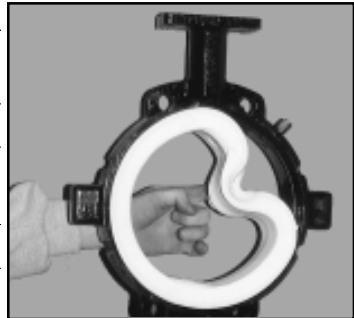

Fig. 6
13. Install the lower bearing (F) in the housing. This bearing may be either a "cup" or a "sleeve" depending upon valve size and bearing material.
14. Install the retaining ring (G), upper bearings (C) and shaft seals (E) as shown in Section 8.1. Some butterfly valve sizes have 3 bearings and shaft seals. Consult the exploded view drawing included with the repair kit.
15. Install the seat (A) into the middle of the housing (B) by attaching the seat to the lip of the housing making sure the seat shaft hole is aligned with the housing shaft hole.
16. Continue attaching the seat (A) to the housing (B) by gradually working the seat over the housing lip (see Fig. 6).
17. Once the seat (A) has been fully installed, check the seat alignment in the housing (B) by inserting the shaft (H) completely into the valve, without the disc (D) in place.